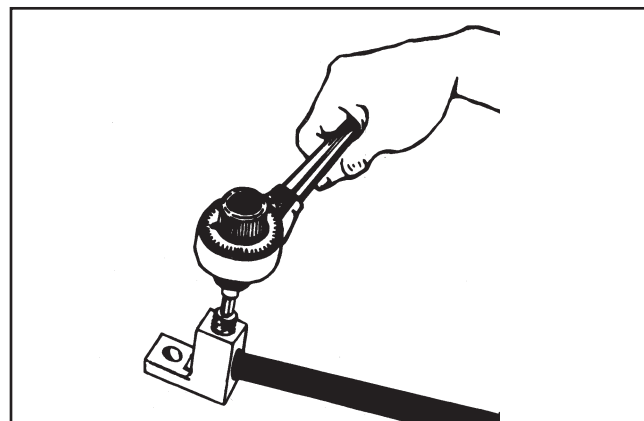

Figure 9
- d) Tighten the connection (*Figure 9*) per the connector manufacturer’s recommendation. In absence of specific recommendations, use the torque values shown in Tables 3.1, 3.2, and 3.3. Expanded tables can be found in the 2011 NEC, Annex I. Use the “B” tables in those charts for field terminations.